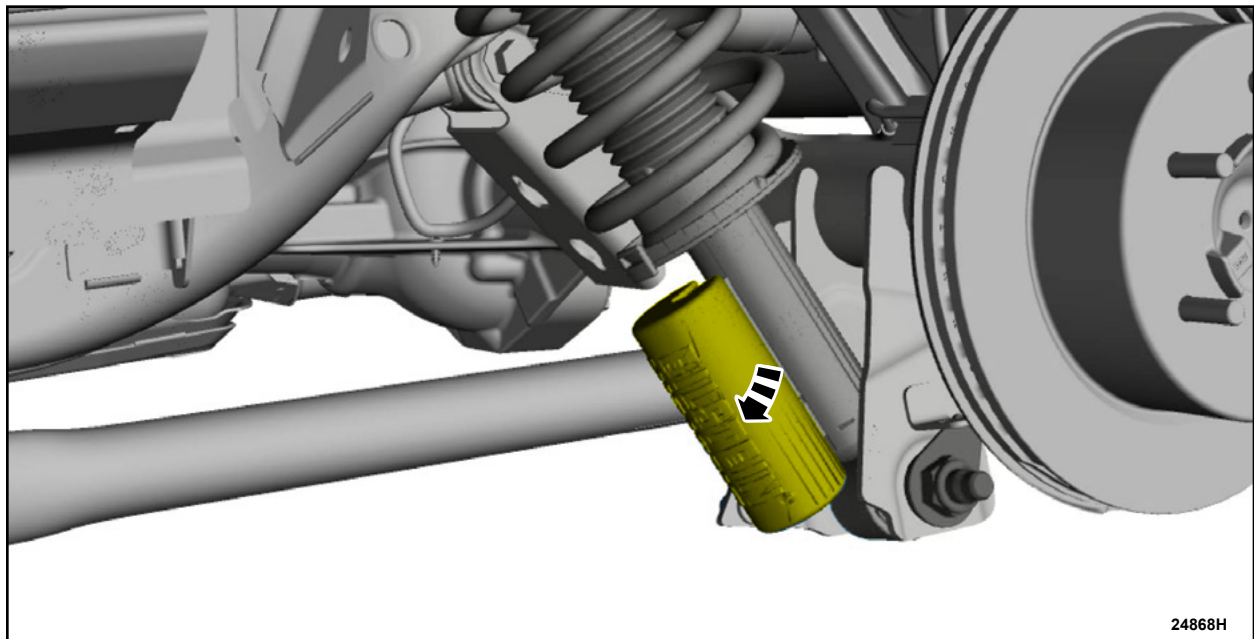
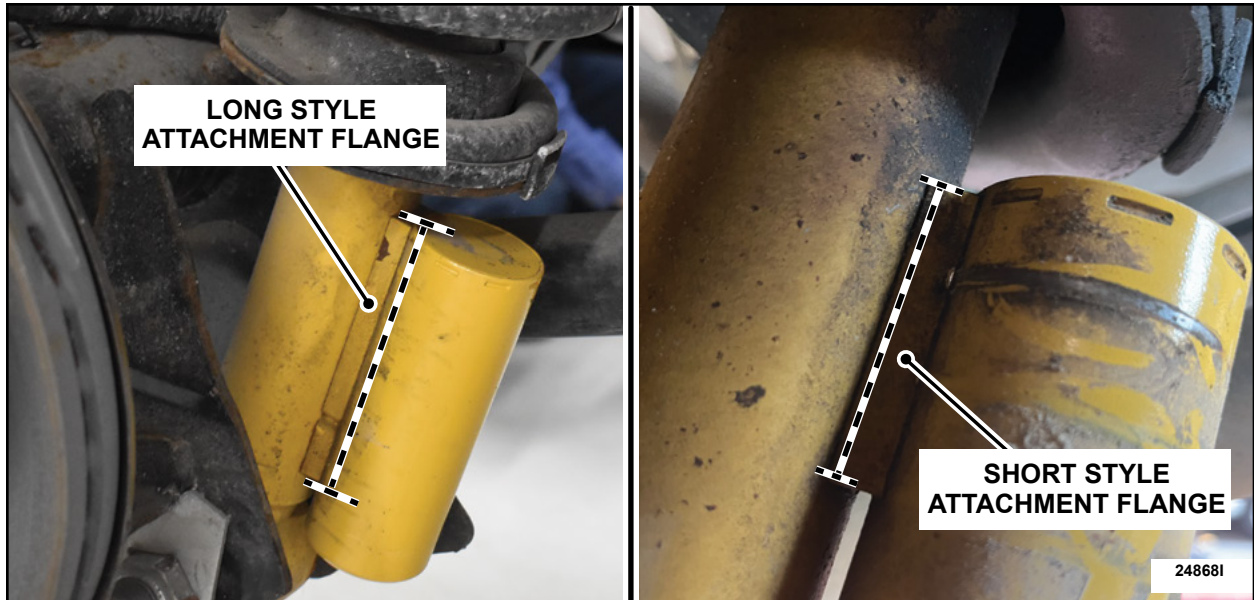

FIGURE 1
FIGURE 2
2. On both sides, inspect the rear shock to reservoir attachment flange. Slightly rotate the rubber stone shield to gain visual access to the flange. See Figure 1. Is the vehicle equipped with the long flanged reservoir? See Figure 2.